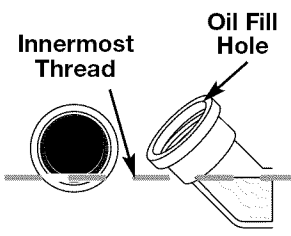

Fig. 17
5. Look into the oil fill hole (use a flashlight if needed). The oil should be just touching the innermost thread (Fig. 17).
6. If the oil level is not touching the innermost thread on the oil fill hole, add a small amount of oil to the oil fill hole and recheck (Fig. 17). Repeat this procedure until the oil level reaches the innermost thread on the oil fill hole.
**NOTE:** Use the bottle and spout saved from initial use to measure the correct amount of oil. The fill line on the label on the bottle measures approximately 2.03 ounces (60 ml) (Fig. 20). Check the level, See Checking the Oil Level. If the level is low, add a small amount of oil and recheck. Do not overfill (Fig. 17).